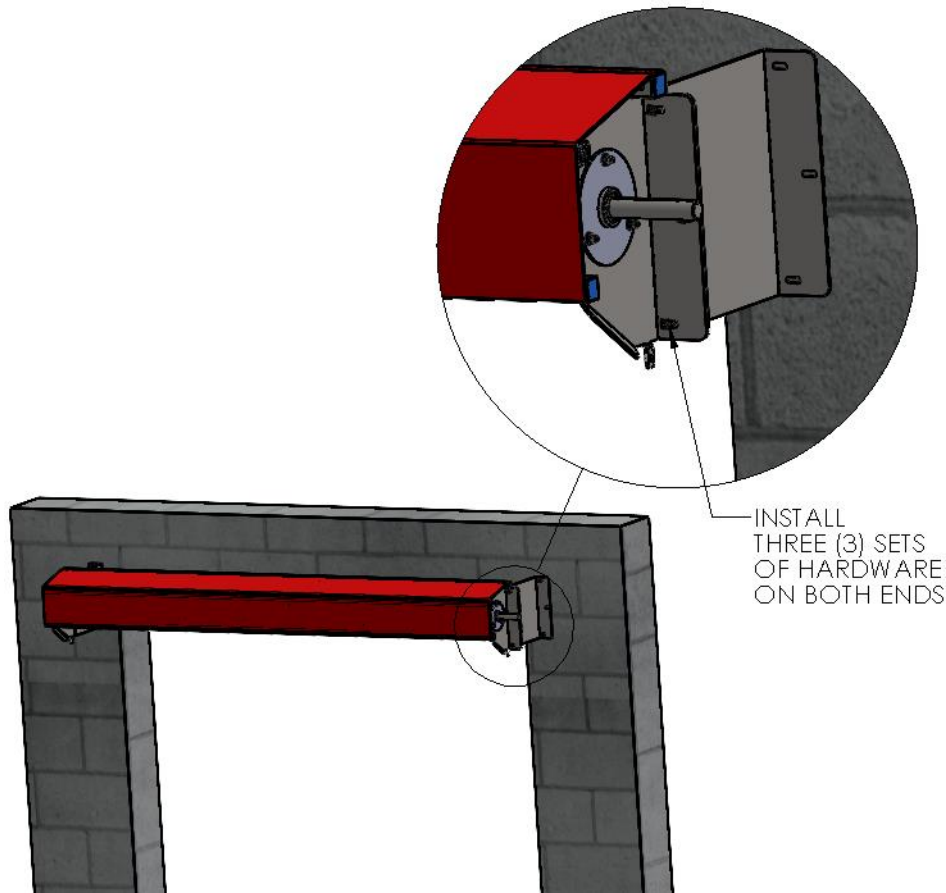

Figure 9 MOUNT HEADER ASSEMBLY TO OFFSET BRACKETS
1. Using two (2) people, and two ladders at minimum, raise the Roll Header Assembly into place on the offset brackets and secure with three (3) sets of ¼-20 screws and hex nuts per side. Do not fully tighten hardware until the Header Assembly Brackets are aligned with the offset brackets/edges. (Figure 9 MOUNT HEADER ASSEMBLY TO OFFSET BRACKETS)